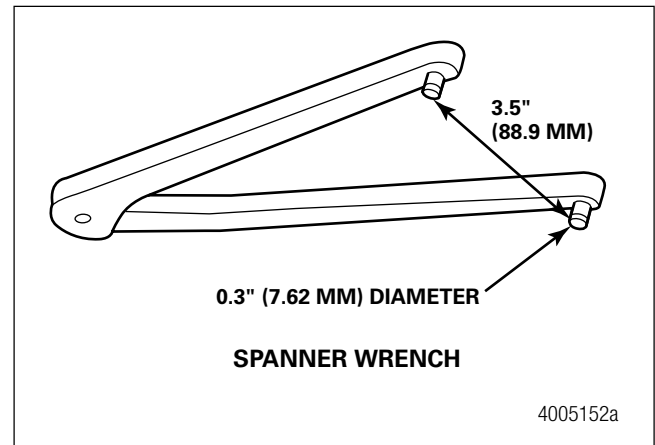

Figure 6.1
4. Use a spanner wrench to turn the spring caps to provide the lining-to-disc clearance specified by the equipment manufacturer. A quarter turn of the spring caps in either direction changes the total clearance by 0.016-inch (0.4 mm). Figure 6.1.